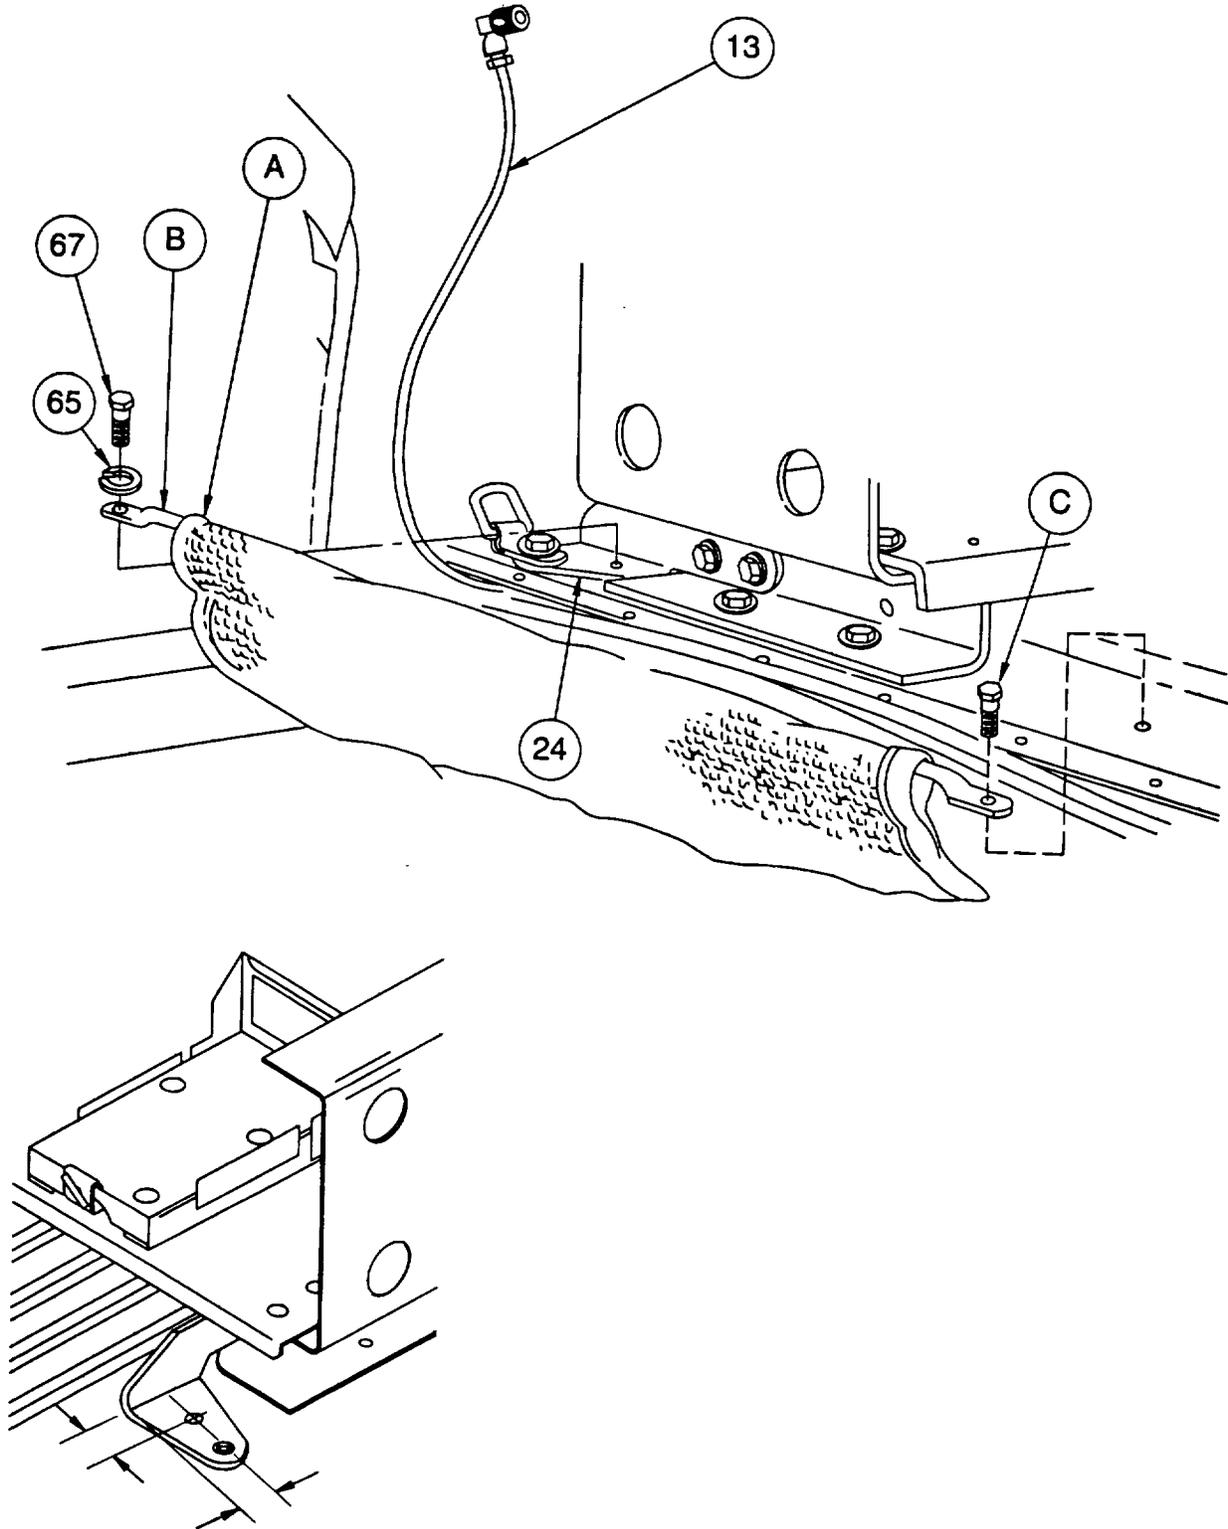

Figure 2-16. Roadside Heat Shield Installation
- b. Install grommet (35) at the rear fender location.
- c. Leave a three inch rain drip loop in the cable. Use a tiewrap (37) to secure the rain drip loop in the cable.
- d. Install cable loop clamp (40) on antenna cable (3 places)
- e. Insert hex cap screw (62) through starwasher (64). Insert hardware combination through fender mounting hole for the cable loop clamp.
- f. Under fender, place cable loop clamp (4), starwasher (64), and hex nut (66) on hex cap screw (62). Hand tighten nut.
- h. Insert hex cap screw (67) through starwasher (64) and cable loop clamp (40) mounting hold.
- l. Refer to Figure 2-16. At the roadside radio rack leg bracket (24) location, use a 3/16-inch drill to drill a hole at the location specified.
- m. Place heat shield (A) and holddown bar (B) over antenna cable (13).
- n. Insert hex cap screw (67) through starwasher (64). Insert hardware combination through forward end of the holddown bar (B) mounting hole.
- p. Secure the rear holddown bar to the platform floor using hardware (C) removed earlier.